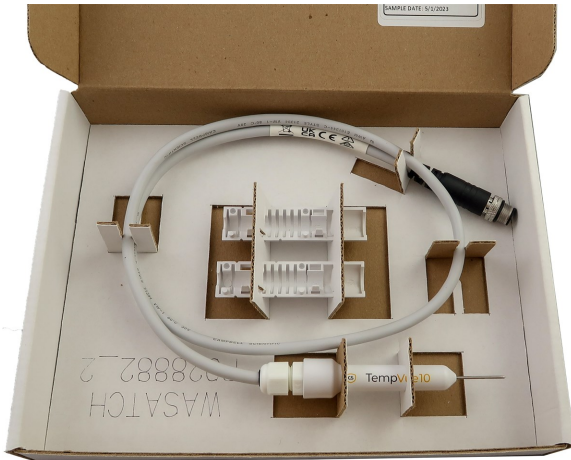

Figure 3-2. Box containing the TempVue 10 and shield extender.
- Figure 3-2 (p. 4) shows the TempVue 10 and shield extender in the shipping box.